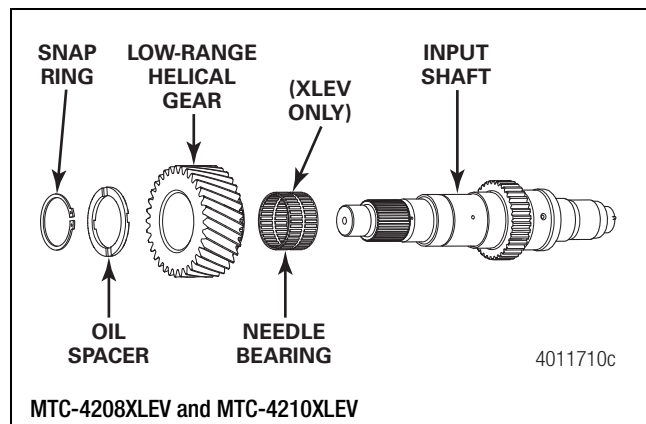

Figure 6.10
4. **MTC-4208XLEV and MTC-4210XLEV transfer case only:** Install the needle bearing on the input shaft. Figure 6.10.
5. Place the low-range helical gear over the input shaft with the spline side of the gear down. For MTC-4208XLEV and MTC-4210XLEV, install the oil spacer. The oil spacer has two oil channels cut into it. The oil channels can face forward or aft when installed. Install the spiral snap ring to secure the helical gear. The gear is a slip fit. Figure 6.10.